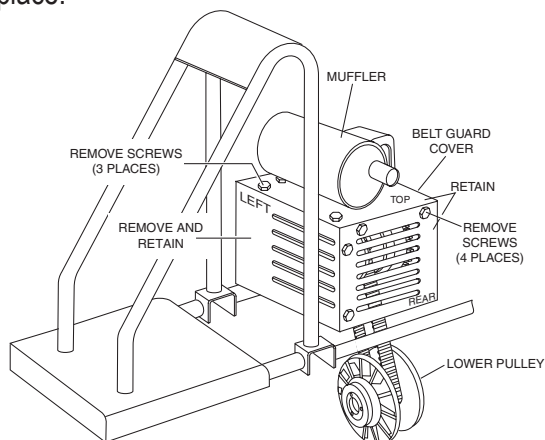

Figure 6. Belt Guard Removal
1. Remove the retaining hardware that secures the left belt guard panel. Remove panel and set aside with mounting hardware in a clean, safe place. See Figure 6.